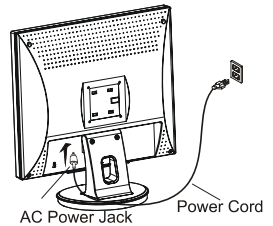

Figure 1-4
1. Connect the power cord to the monitor. (See Fig. 1-4)